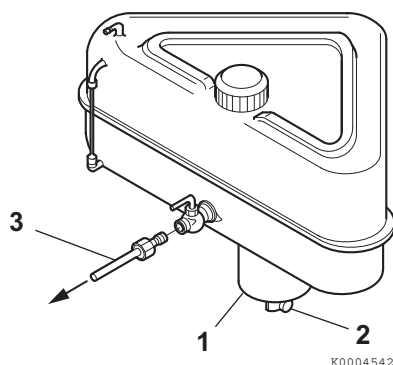

Figure 1
1. Put a pan under the drain cock (**Figure 1, (2)**) to catch fuel.